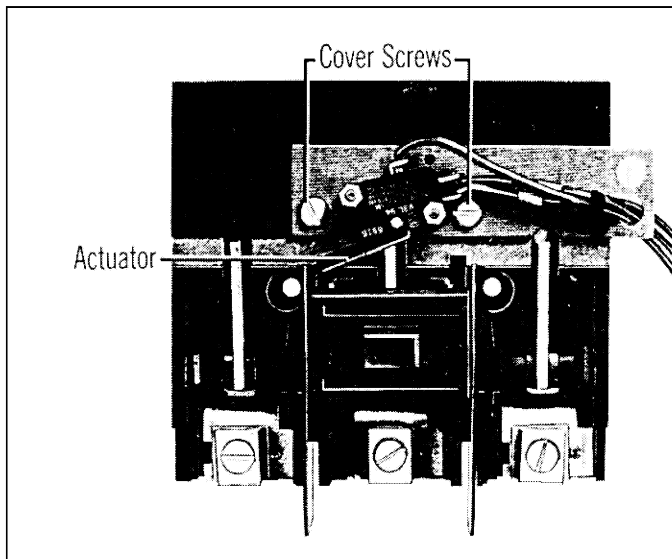

Fig. 1 Typical Installation of 1A - 1B Auxiliary Switch
1. Remove two covers screws from the DS switch but leave the cover and lineshield in place. See Figure 1 or 2.
3. Line up holes (2) of the auxiliary switch's mounting plate with holes in the cover and re-assemble cover screws.